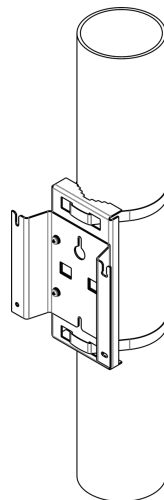

Figure 8 – Mounting bracket on a mast/pole
2.1) Fix bracket on mast/pole by using clamps, see Figure 8.